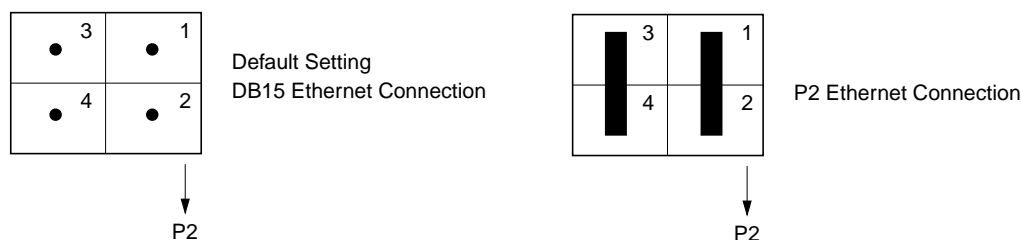

Figure 1-4 JP3 on Mother Board: Location for Ethernet Connection
- Figure 1-4** JP3 on Mother Board: Location for Ethernet Connection1-5
Jumper block JP3 (illustrated in Figure 1-4) selects the location for the Ethernet connection. The Ethernet transceiver connection to the EFAST board can be either through the DB15 connector or through the P2 VMEbus connector. When JP3 is jumpered for a P2 connection, the jumpers provide the power for the P2 transceiver.
The Silicon Graphics factory (default) setting (illustrated in Figure 1-4) is for DB15. Change this setting only if you wish to connect the Ethernet transceiver to P2.